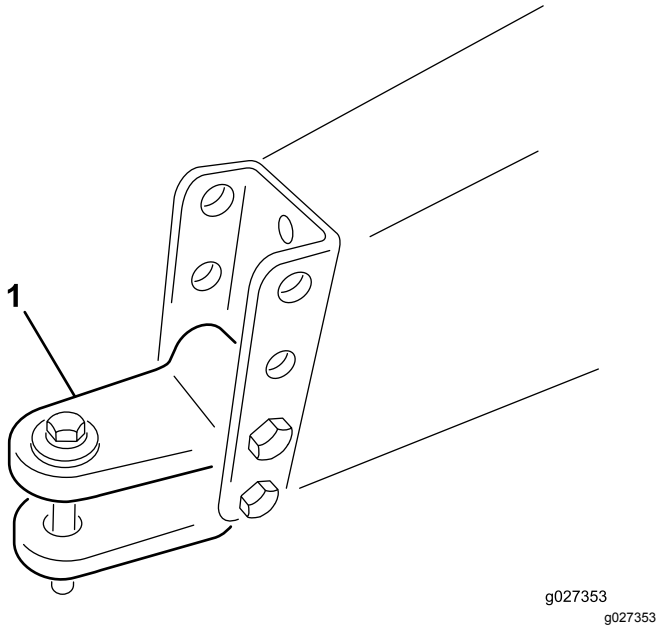

Figure 6
- A. Remove the bolts and locknuts that secure the hitch clevis (Figure 6) to the machine frame.